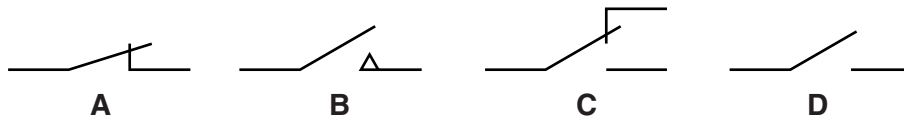

Fig. 18
- (b) Fig. 18 shows four switch symbols.